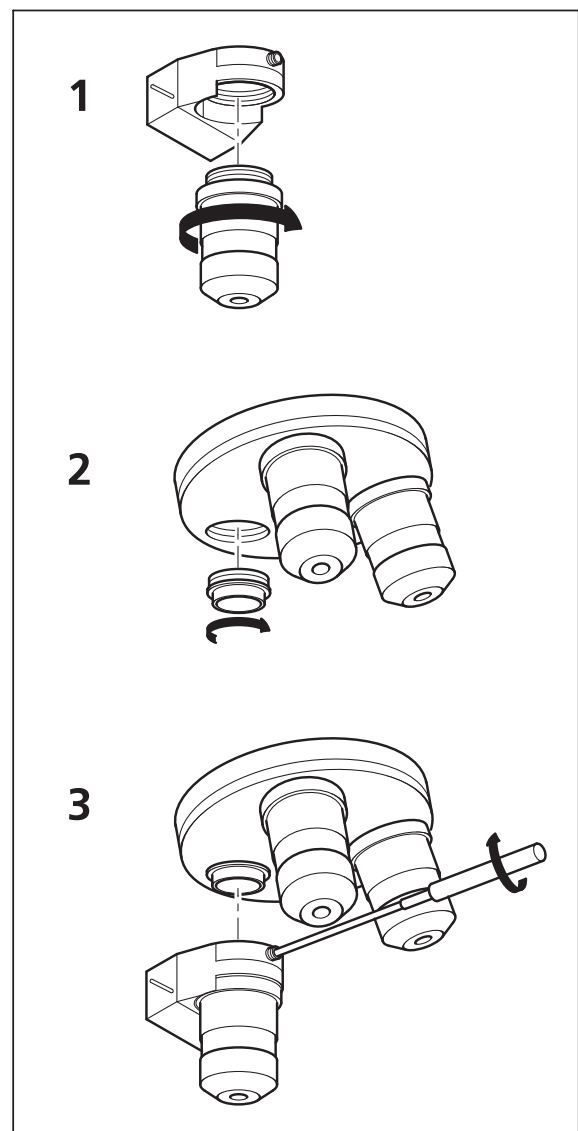

Fig. 7-15 Installation of the Piezo Objective Focusing Device
- Screw in your microscope objective into Piezo Objective Focusing Device (see Fig. 7-15/1).
- Screw the thread-ring into your microscope (see Fig. 7-15/2).
- Easy clamp the Piezo Objective Focusing Device on the thread-ring (see Fig. 7-15/3).